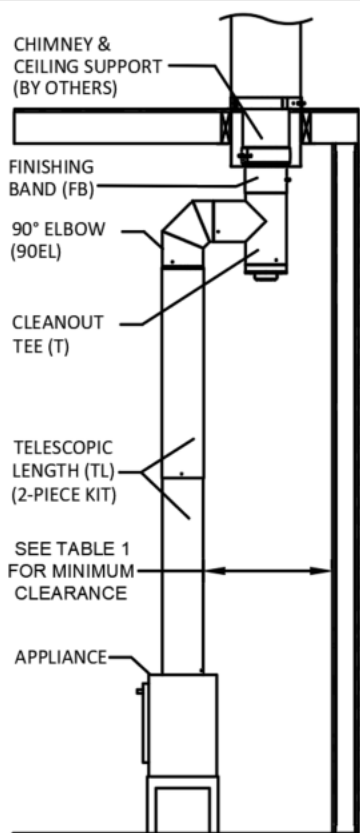

Fig 2C. Tee & Through the Ceiling
- Prefabricated Chimney – Through-the-Ceiling Installation (See Figure 2C)